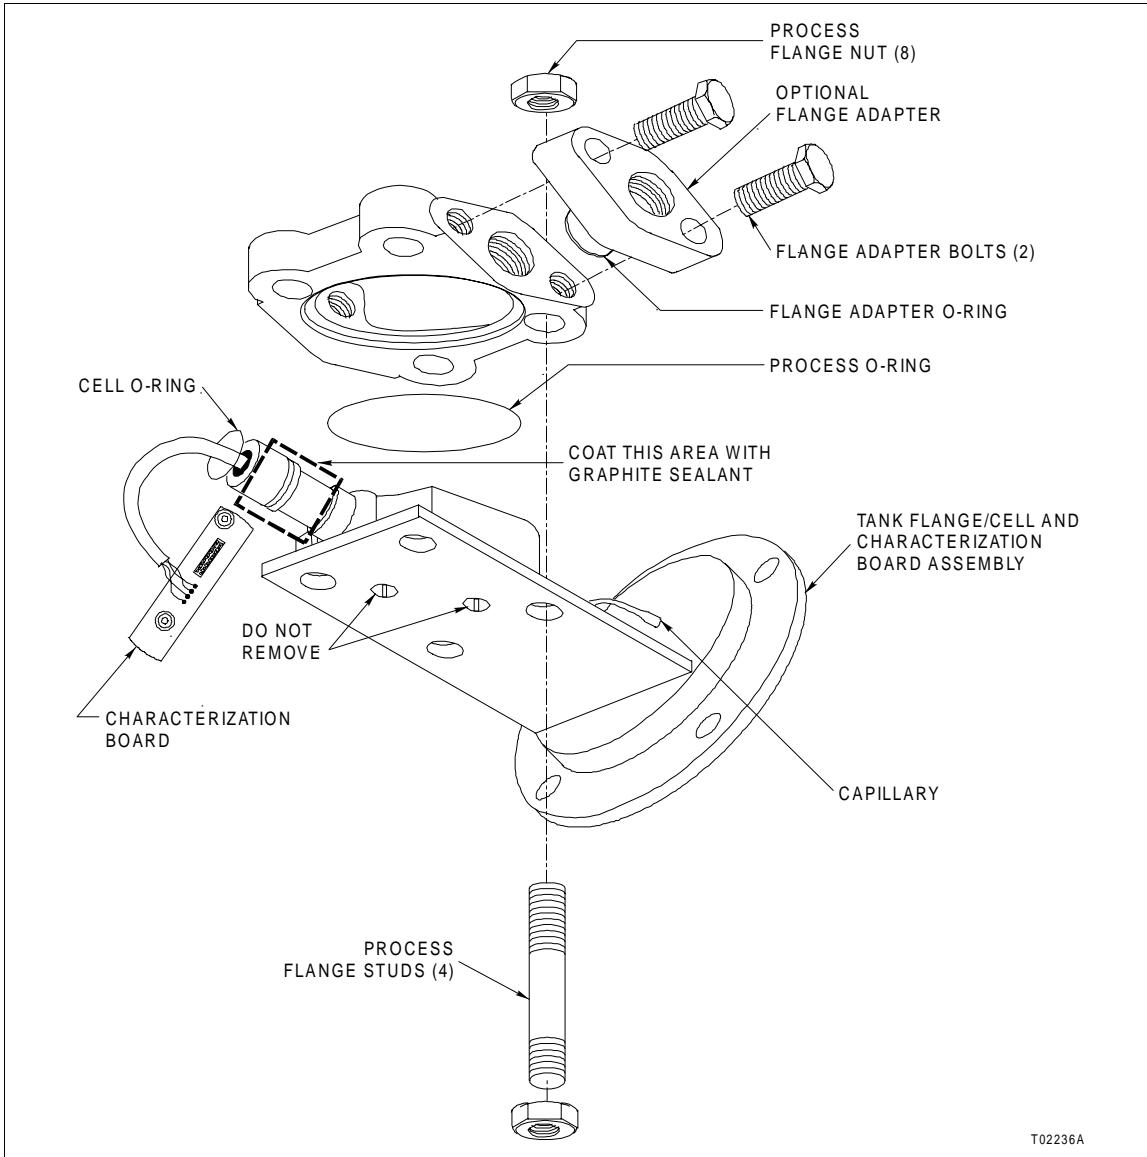

Figure 8-2. Tank Flange/Cell and Characterization Board Assembly
9. Use the adjustable end wrench to remove all four of the process flange nuts on the low pressure (-) side of the cell (Fig. 8-2).
10. Separate the flange from the cell, taking care not to damage the isolating diaphragm (Fig. 8-2).
11. Remove the cell, process and cover O-rings (Figs. 8-2 and 8-3).
7. Coat the cylindrical part of the cell with a light coating of the DRI-GLIDE sealant (Fig. 8-2).
8. Refer to **Section 9** and determine the proper cell O-ring (Fig. 8-2).
2. Using the adjustable end wrench, remove four of the process flange nuts from the low pressure (-) side of the process flange (Fig. 8-2).
3. Remove the process flange studs (Fig. 8-2).
1. Refer to **Section 9** and determine the proper process O-rings (Fig. 8-2) for the application.
2. Using the adjustable end wrench, remove the flange adapters, vent/drain plugs, and pipe plugs from the process flanges (if supplied, Figs. 8-2 and 8-3).
3. Using the adjustable end wrench, remove four of the process flange nuts from the low pressure (-) side of the process flange (Fig. 8-2).
4. Remove the process flange studs (Fig. 8-2).
5. Separate the flange from the cell, being careful not to damage the isolating diaphragm (Fig. 8-2).
1. Refer to **Section 9** and determine the proper process and flange adapter (if supplied, Fig. 8-2) O-rings for the application.